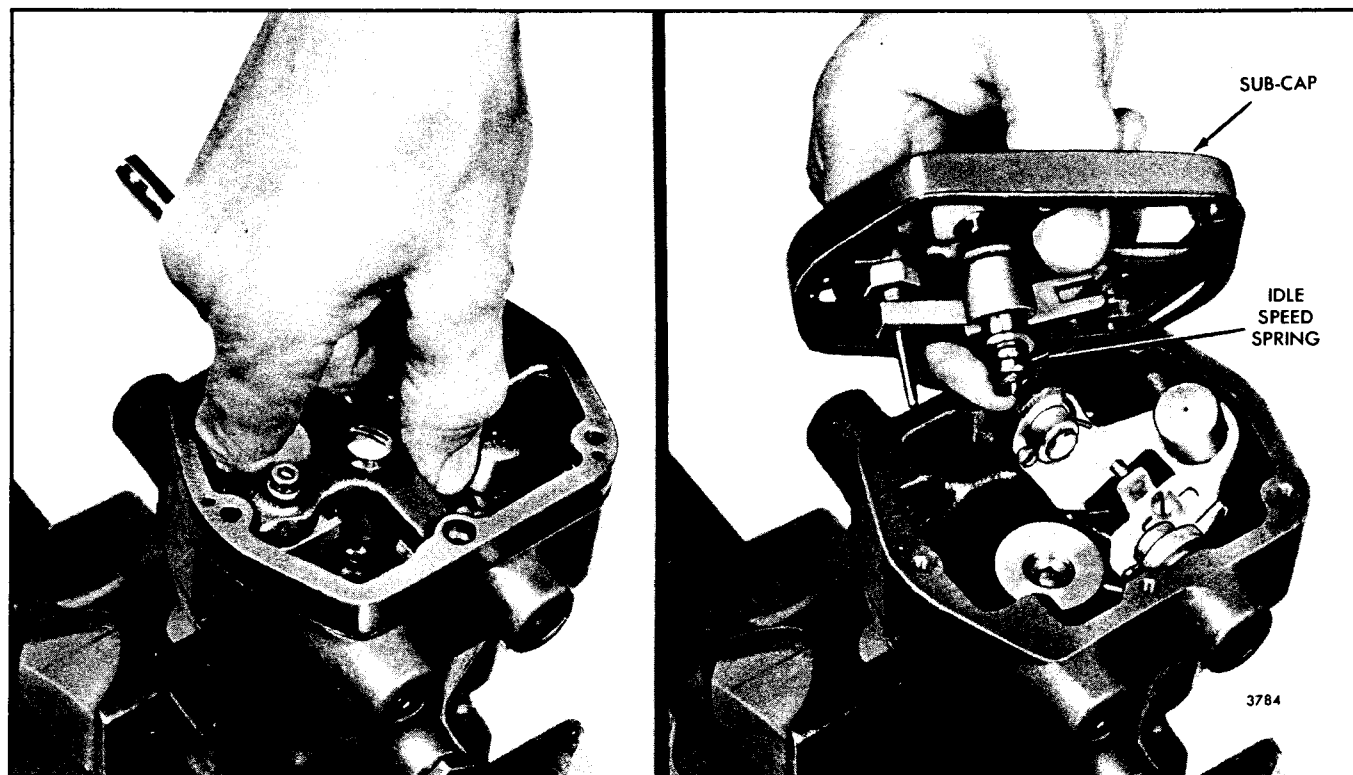

Fig. 11 - Removing or Installing Governor Sub-Cap Assembly
CAUTION: Hold the idle speed spring seat or spring with your finger, as shown in Fig. 11, to prevent it from falling into the governor housing.
5. Check to make sure the idle speed adjusting pin is in position and place the idle speed spring against the spring seat. Then, holding the spring in place with your finger (Fig. 11) and holding the linkage so the pointer is near the 36° mark, install the sub-cap assembly. Make sure the pin in the speed droop adjusting bracket enters the slot in the floating lever.